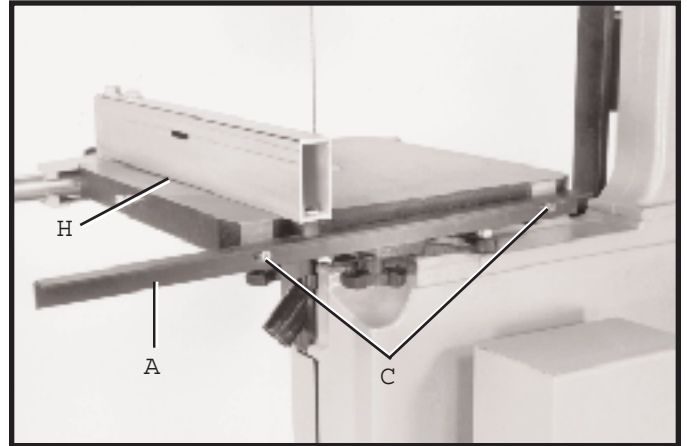
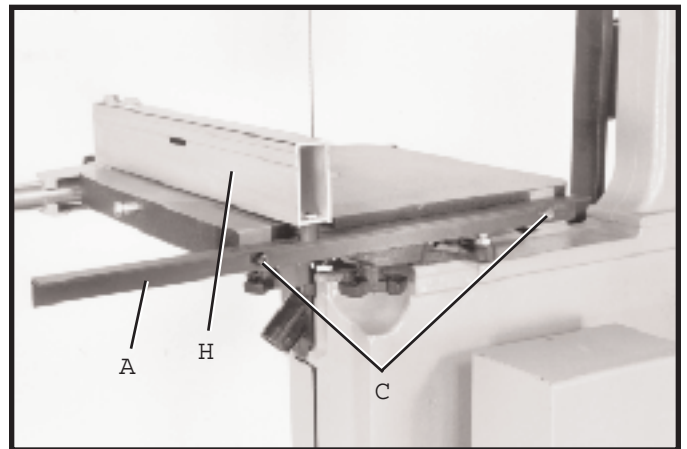

Fig. 26
Fig. 27
6 Determine if the gap between the bottom of fence (H) Fig. 26, and the top of the saw table is the same across the entire length of fence. Fig. 26, illustrates a fence which is improperly adjusted. If an adjustment is necessary, the rear fence rail (A) Figs. 26 and 27, has vertical slots to allow for height adjustments
7 Fig. 27, illustrates a properly adjusted fence (H). Tighten screws (C) Figs. 26 and 27, after adjustments are made.